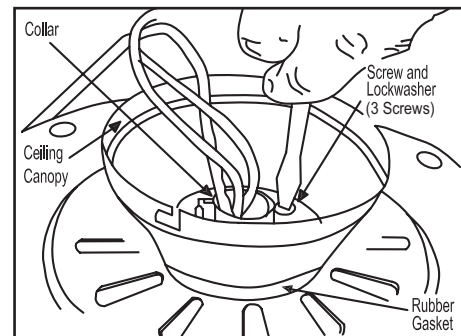

Figure 9
4. Place the rubber gasket over the remaining three screws, route the wires exiting the top of the fan motor through the canopy ring (make sure the slot openings are on top), then proceed to place the ceiling canopy over the collar at the top of the motor (Figure 9).
5. Align the mounting holes with the holes in the motor and fasten, using the three screws and lock-washers removed in step 3 (Figure 9).